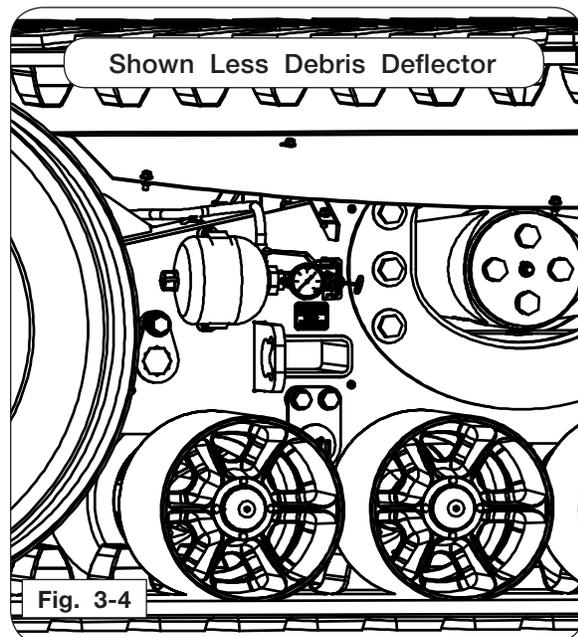

Fig. 3-4
- Open the 90 degree shut-off valve on the track frame. Read pressure gauge on track frame. See Fig. 3-4.
**NOTE:** Valve is open when handle is parallel to hydraulic fitting. Valve is closed when handle is parallel to track frame. (Fig. 3-4)